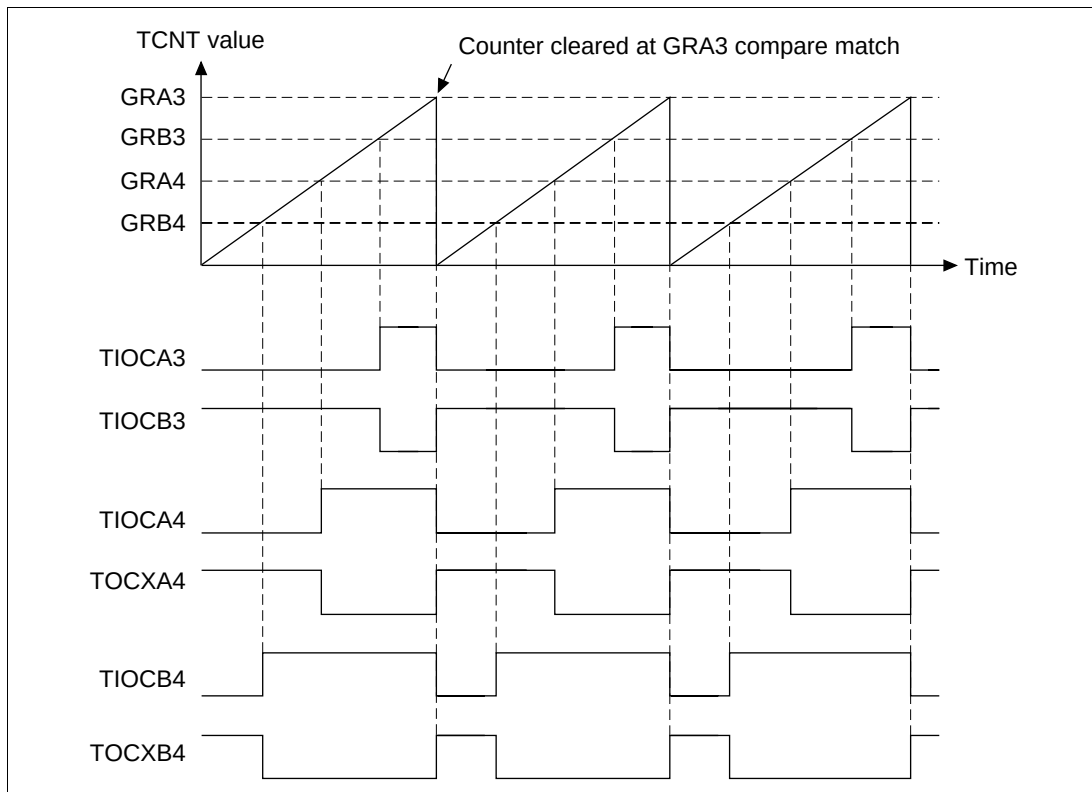

**Figure 10.32 Reset-Synchronized PWM Mode Operation Example 1**
**Reset-Synchronized PWM Mode Operation:** Figure 10.32 shows an example of operation in reset-synchronized PWM mode. TCNT3 operates as an up-counter that is cleared to H'0000 at compare match with GRA3. TCNT4 runs independently and is isolated from GRA4 and GRB4. The PWM waveform outputs toggle at each compare match (GRB3, GRA3, and GRB4 with TCNT3) and when the counter is cleared.